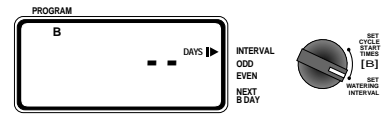

FIGURE 7: Program B Setup for Fixed Schedule
- Turn the rotary selector to **SET WATERING INTERVAL**. The cursor will blink to the right of the word **INTERVAL**. [Note Figure 7.]